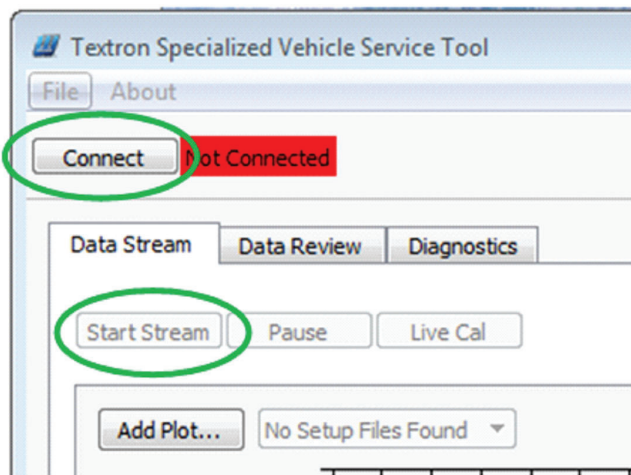

Fig. 19 Connect and Start Stream Buttons
7. Current ECM hours are found on the Diagnostics tab and Runtime History sub-tab in a field called Engine Hours in the top left (see Figure 19). Hours are reported on initial software connection. If the vehicle is run any significant amount while connected, the software should be disconnected and reconnected to refresh the hour count. This hour reading should correlate closely with the reading of a vehicle’s hour meter, if installed, since both record pedal-down